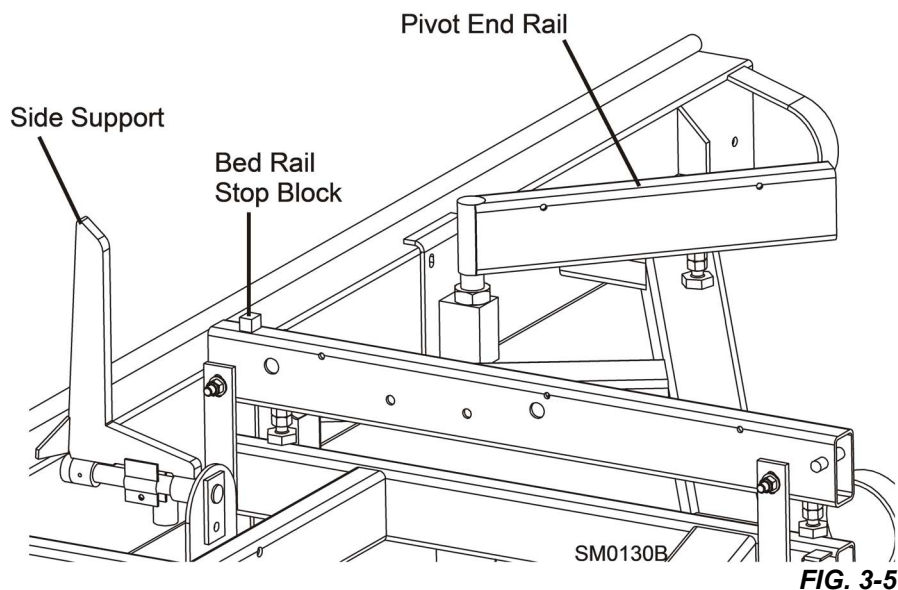

FIG. 3-5
10. Raise the two side supports to prevent the log from falling off the side of the mill when loaded. **See Fig. 3-5.**